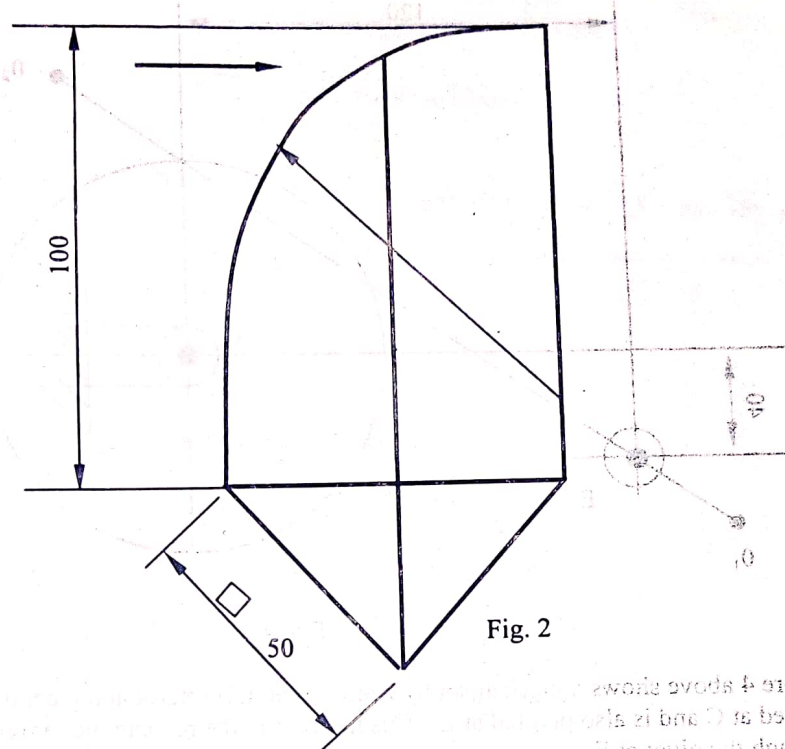

Fig. 2
2. Draw the development of the square pipe turned diagonally as shown in figure 2 below. Include an end elevation in the direction of the arrow.